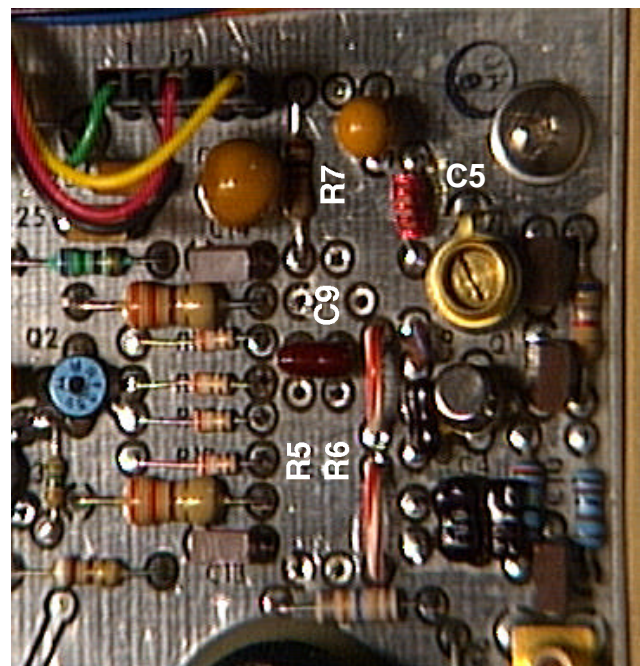
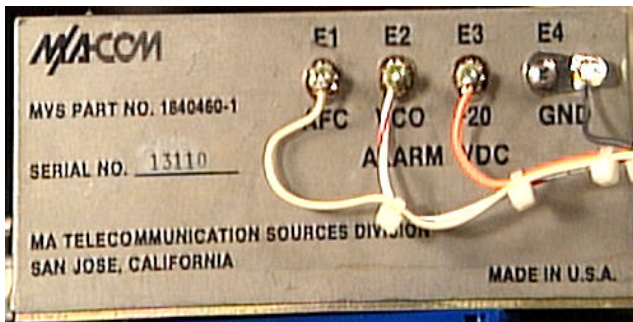

Figure 3.
Figure 6.
*This is the oscillator and phase lock section of the L.O. assembly with the cover removed. The area highlighted is where the circuit modifications are. A close-up view of this area is shown in figure 3.*
Unsolder and REMOVE R5, R6, R7, and C9. See figure 3 for the location of these components.
Attach a +18 to +20 volt 0.5A regulated supply to the appropriate feedthroughs on the L.O. assembly (see figure 6), and adjust C5 (see figure 3), for the frequency of operation which is 102 times the crystal frequency.